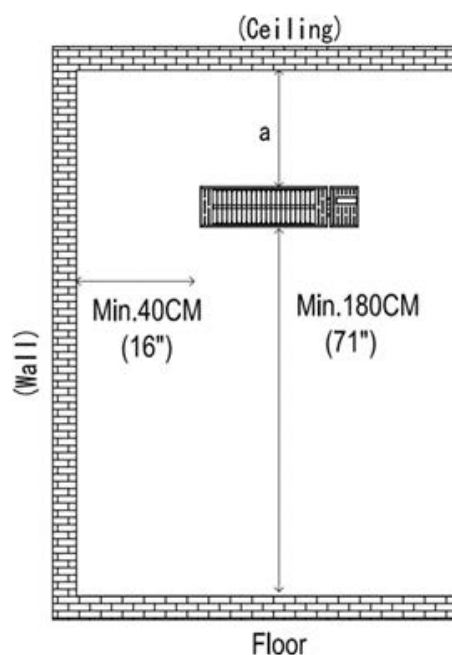

Figure 3 | Safe distances for mounting
1. Choose the mounting position, abiding by the safety points detailed below and in **Figure 3**: